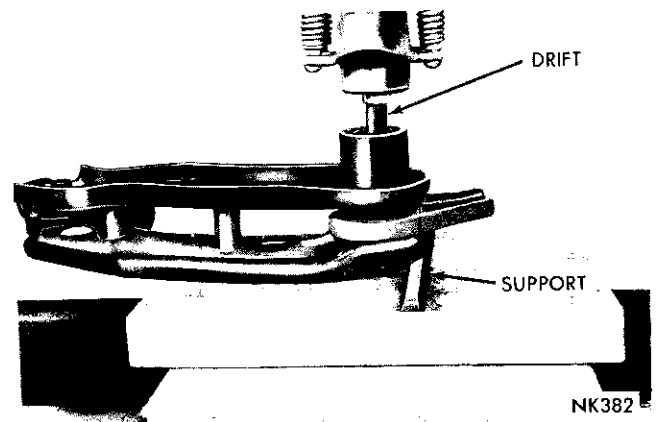

Fig. 15—Removing the Pivot Shaft (Chrysler)
(1) Place the strut portion of the control arm assembly in a vise and remove the nut from the strut.
(2) Remove the strut from the control arm.
(3) Remove the jounce bumper, torsion bar adjusting bolt and swivel from the control arm.
(4) Place the control arm assembly in an arbor press with the torsion bar hex opening up and with a support under the outer edge of the control arm (Fig. 15).
(5) Place a brass drift into the hex opening and press the shaft out of the control arm (Fig. 15). The bushing inner shell will remain on the shaft.
(6) Remove the bushing inner shell from the pivot shaft.